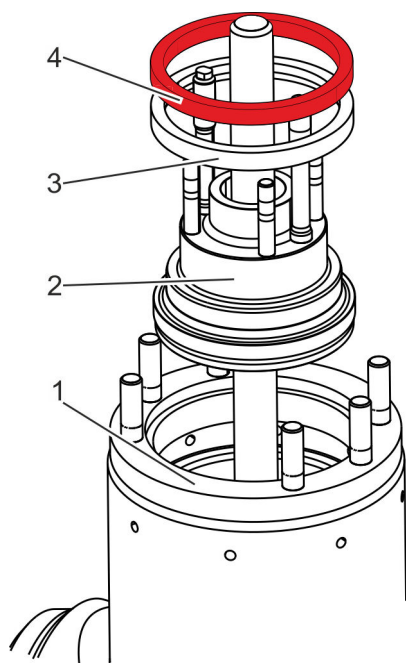

Fig. 33: Inserting cover
With a suitable hoist, insert the cover (Fig. 33/2) into the body (Fig. 33/1).
17. Mount the new gasket ring (Fig. 33/3).
18. Place the support ring (Fig. 33/4) on the gasket ring (Fig. 33/3).